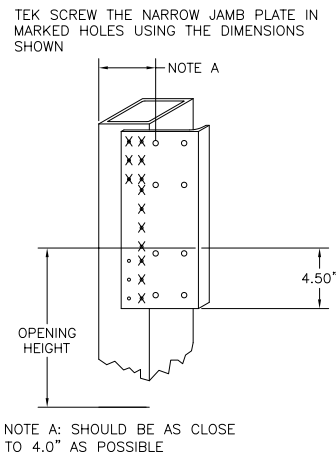

Figure 2.
3.2 Narrow Jamb Application: Narrow jamb plates (671050) are available, for situations in which the jamb is not wide enough for bracket mounting. This condition should be made known at the time of order entry so that you will have the hardware when you need it. (See Figure 2).